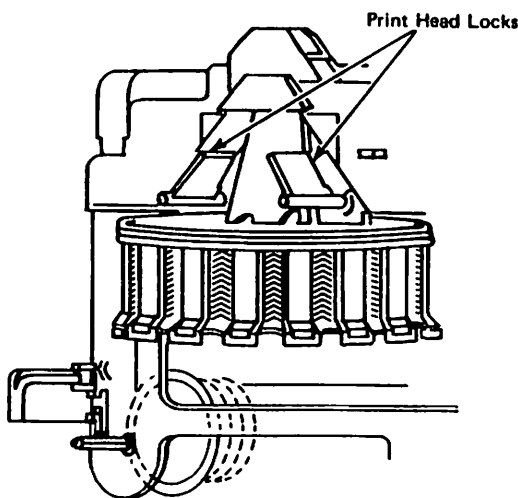

Figure 6 Print head replacement
4. Turn the two print head locks through 90° to the positions shown in Figure 6.